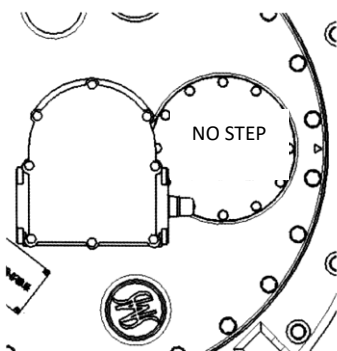
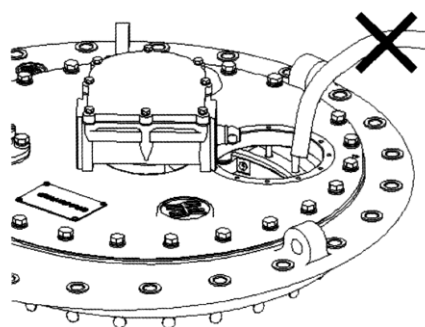

Figure 43 Do not step on rupture disc
Figure 44 Do not fill in oil through rupture disc
3. Do not step on the rupture disc when filling oil, and cannot directly fill oil from the hole of the rupture disc. (Figure 43, Figure 44)